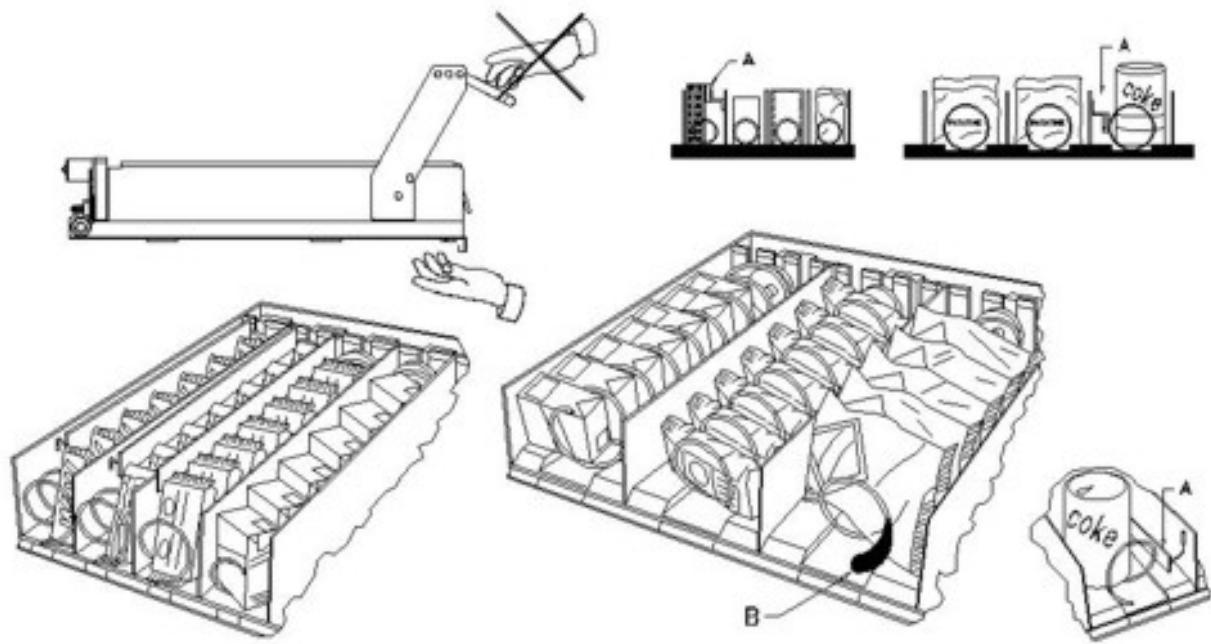

fig. 3
8.2 SPACER FOR PRODUCTS ON FOOD ZONE (fig. 3)
8.3 PRODUCT EXPELLER (fig. 3)